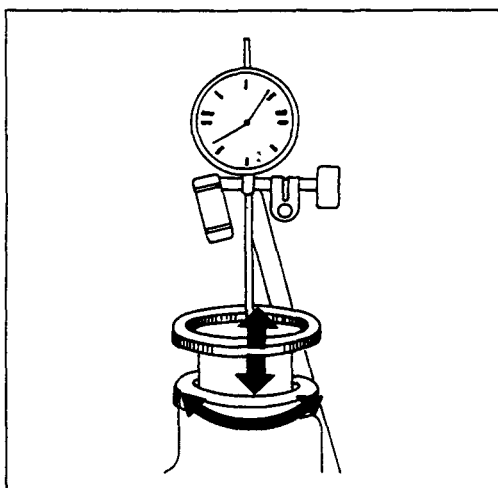

Figure 5
- While rotating the flange back and forth through approximate 45 degrees, lift the companion flange. Zero the dial indicator while maintaining the load on the pinion. Repeat the back and forth movement while pressing against the flange. (see Fig.5).
If no obvious defects are noted check the gear tooth contact pattern. Paint the gear teeth thinly with the specified marking compound. Wrap a cloth around the companion flange and grip firmly by hand to brake its rotation while driving the gear through one side shaft. (Fig. 5).